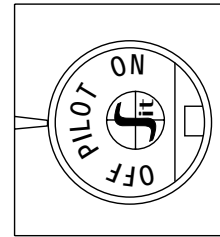

Figure 16
7. Depress control knob in and turn counterclockwise  to the "PILOT" position (*Figure 16*). Press the control knob all the way in for 5 seconds.